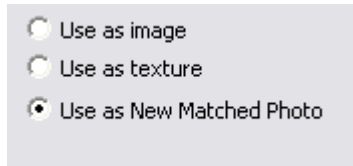

Figure 9-49
3. Start a new SketchUp file and then choose File→Import from the main menu. Make sure you are looking for graphic file types and browse to the barn photo you saved. Import it as a new matched photo (Figure 9-49).